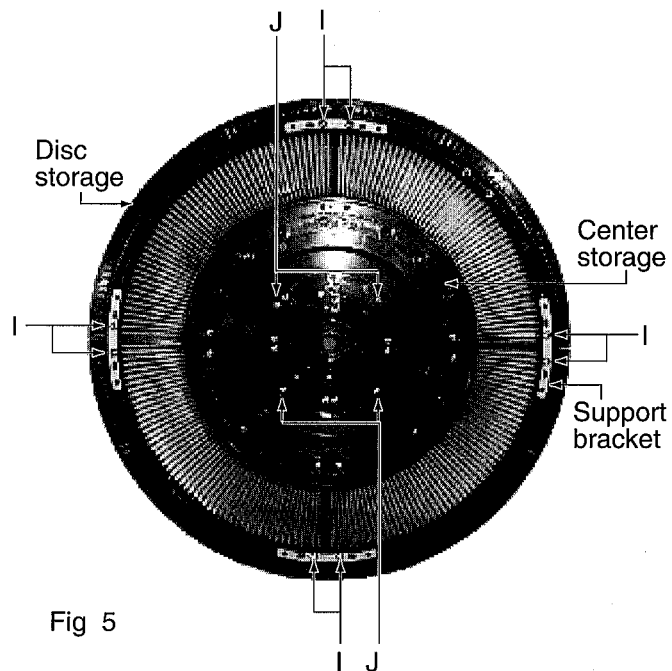

Fig 5
* 20 screws "K" is except "I" "J" (Fig 5)